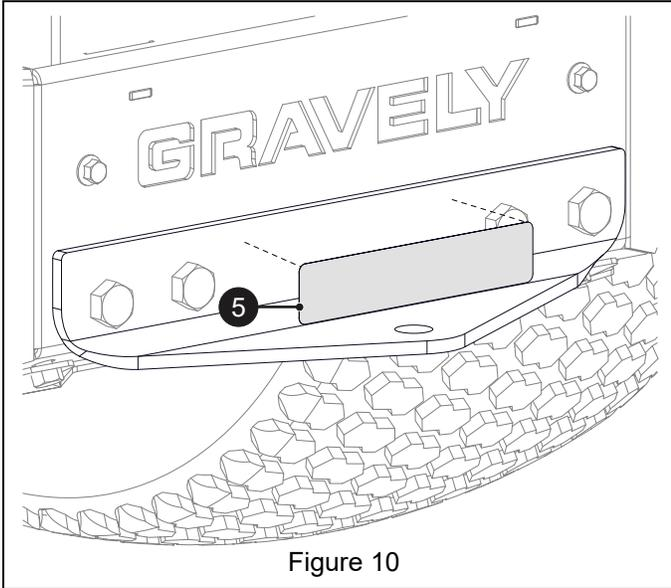

Figure 10
2. Remove backing from trailer hitch decal (item 5) to expose adhesive surface.
3. Align and adhere decal to hitch plate. See Figure 10.